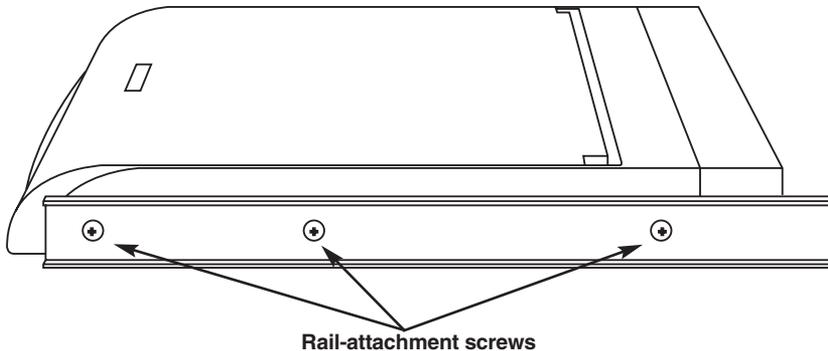

Figure 4-1. Attaching the inside rails to the ServView.
2. Attach the two inside rails to the three posts on the right and left sides of the ServView—one rail to each side. Attach each rail to the posts using the included 8-32 x 1/2" screws, as shown in Figure 4-1.